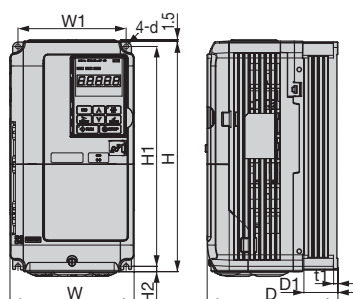
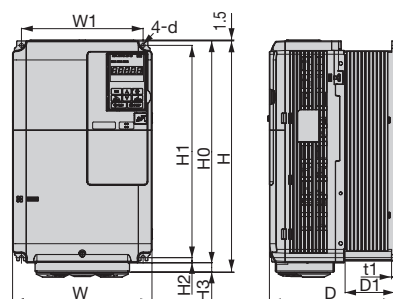

Figure 1
Figure 2
■ Open-Chassis [IP00] Note: The enclosure type of figure 1 and figure 2 is IP20.